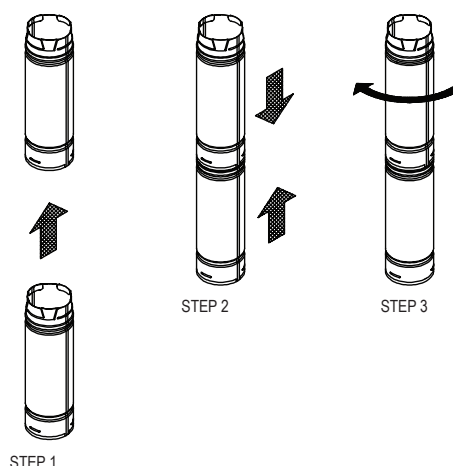

Figure 9
5. Pipe Assembly. Sections of DuraVent round pipe are joined together by lining up the female end of the locking lug with the male end slot, pushing them together, and turning clockwise to twist lock. Refer to **Figure 9**. Sheet metal screws are not needed for 3" through 8" diameter pipe. However, if desired, use 1/4-inch long sheet metal screws for 3" through 8" diameter pipe. Never penetrate the inner liner with screws. For 10" through 16" diameter pipe, DuraVent recommends using a minimum of (4) 3/8" sheet metal screws per joint, and a minimum of (6) 3/8" sheet metal screws are required per joint for 18" and larger diameters. Each Pipe Section is labeled, and an arrow shows the direction of the exhaust flow. For ceiling supported installations, place a Pipe Section, or assembled Pipe Sections, through the hole in the Square Firestop Support, and tighten the Clamp. The Clamp will rest inside the Ceiling Support, and prevent the Pipe Sections from dropping down. The Pipe Section(s) should protrude a minimum of one inch below the ceiling. An optional Pipe Collar is available for decorative purposes.